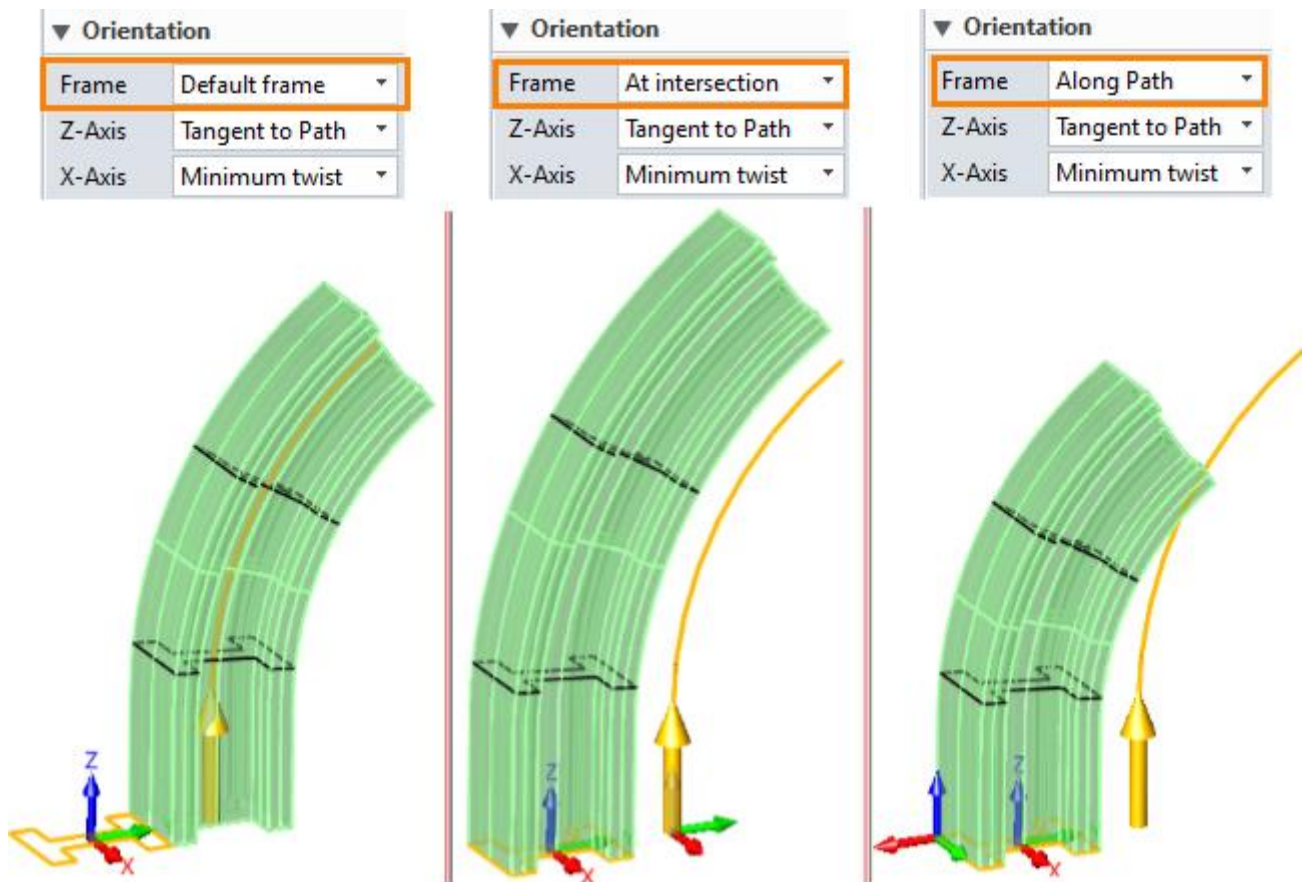

Figure24 Sweep Orientation
STEP 02 Set the shape orientation. The reference frame is controlled these options. The Figure24 shows the result of different setting.